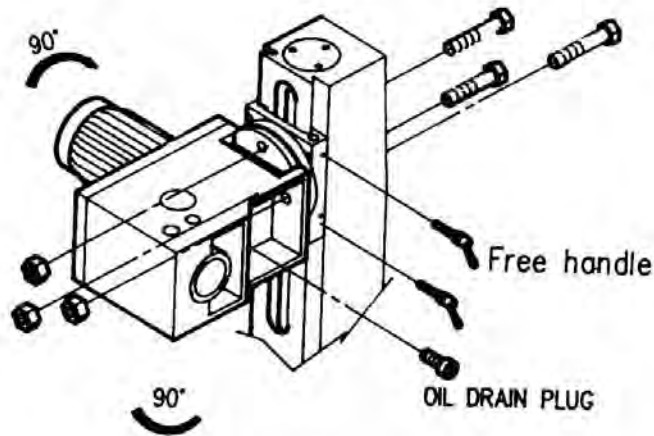

Fig. 1
Tilt the head stock over as shown in Fig 1. Open the oil drain plug to allow the oil to drain from the opening completely. Then lock the oil drain plug and turn the head to be upright position. Remove the oil filler plug fill the oil to the gear box until the oil lever reach the middle of oil fluid lever indicator. Then lock the plug.
- (2) After Operation
(3) Adjustment of Head
- (a) To raise and lower the head, loosen the two heavy duty head free handle shown in Fig.1. Use the left side head handle to raise and lower the head on its rack and pinion mechanism. When the desired height is reached, tighten the bolts to avoid vibration.